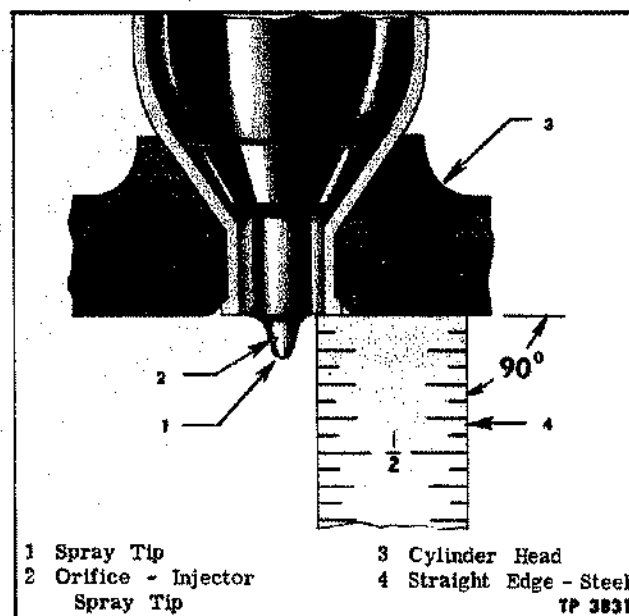

Figure 83—Checking Location of Injector Spray Tip in Relation to Surface of Cylinder Head
4. Use injector as a gauge, and continue reaming and checking with injector until the shoulder of the spray tip is flush to .015" below the surface of the cylinder head. Refer to figure 83.